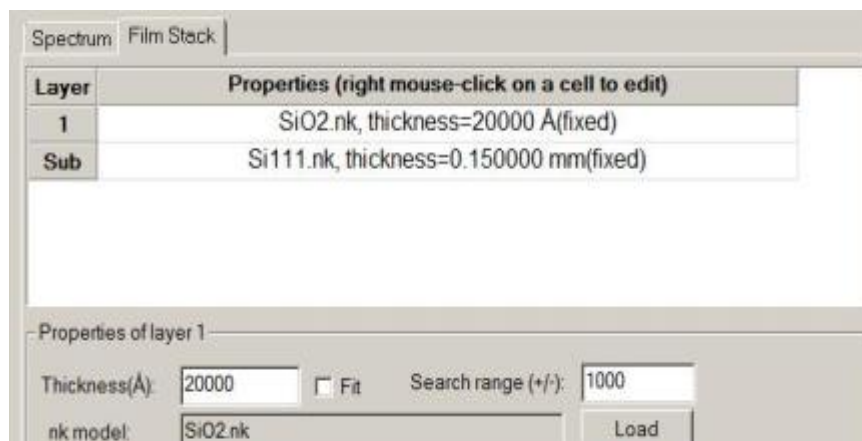

Fig. 119. Film Stack tab
1. Select the *Film Stack* tab in the *Film Thickness* dialog. It is shown in Fig. 119. The current film stack model is displayed in the white box. The substrate is on the bottom, denoted by “Sub” in the left margin. Other layers appear above the substrate, numbered starting at 1 for the bottom layer.
- a. Click on the substrate layer in the film model (“Si 111” in Fig. 119) to select it.